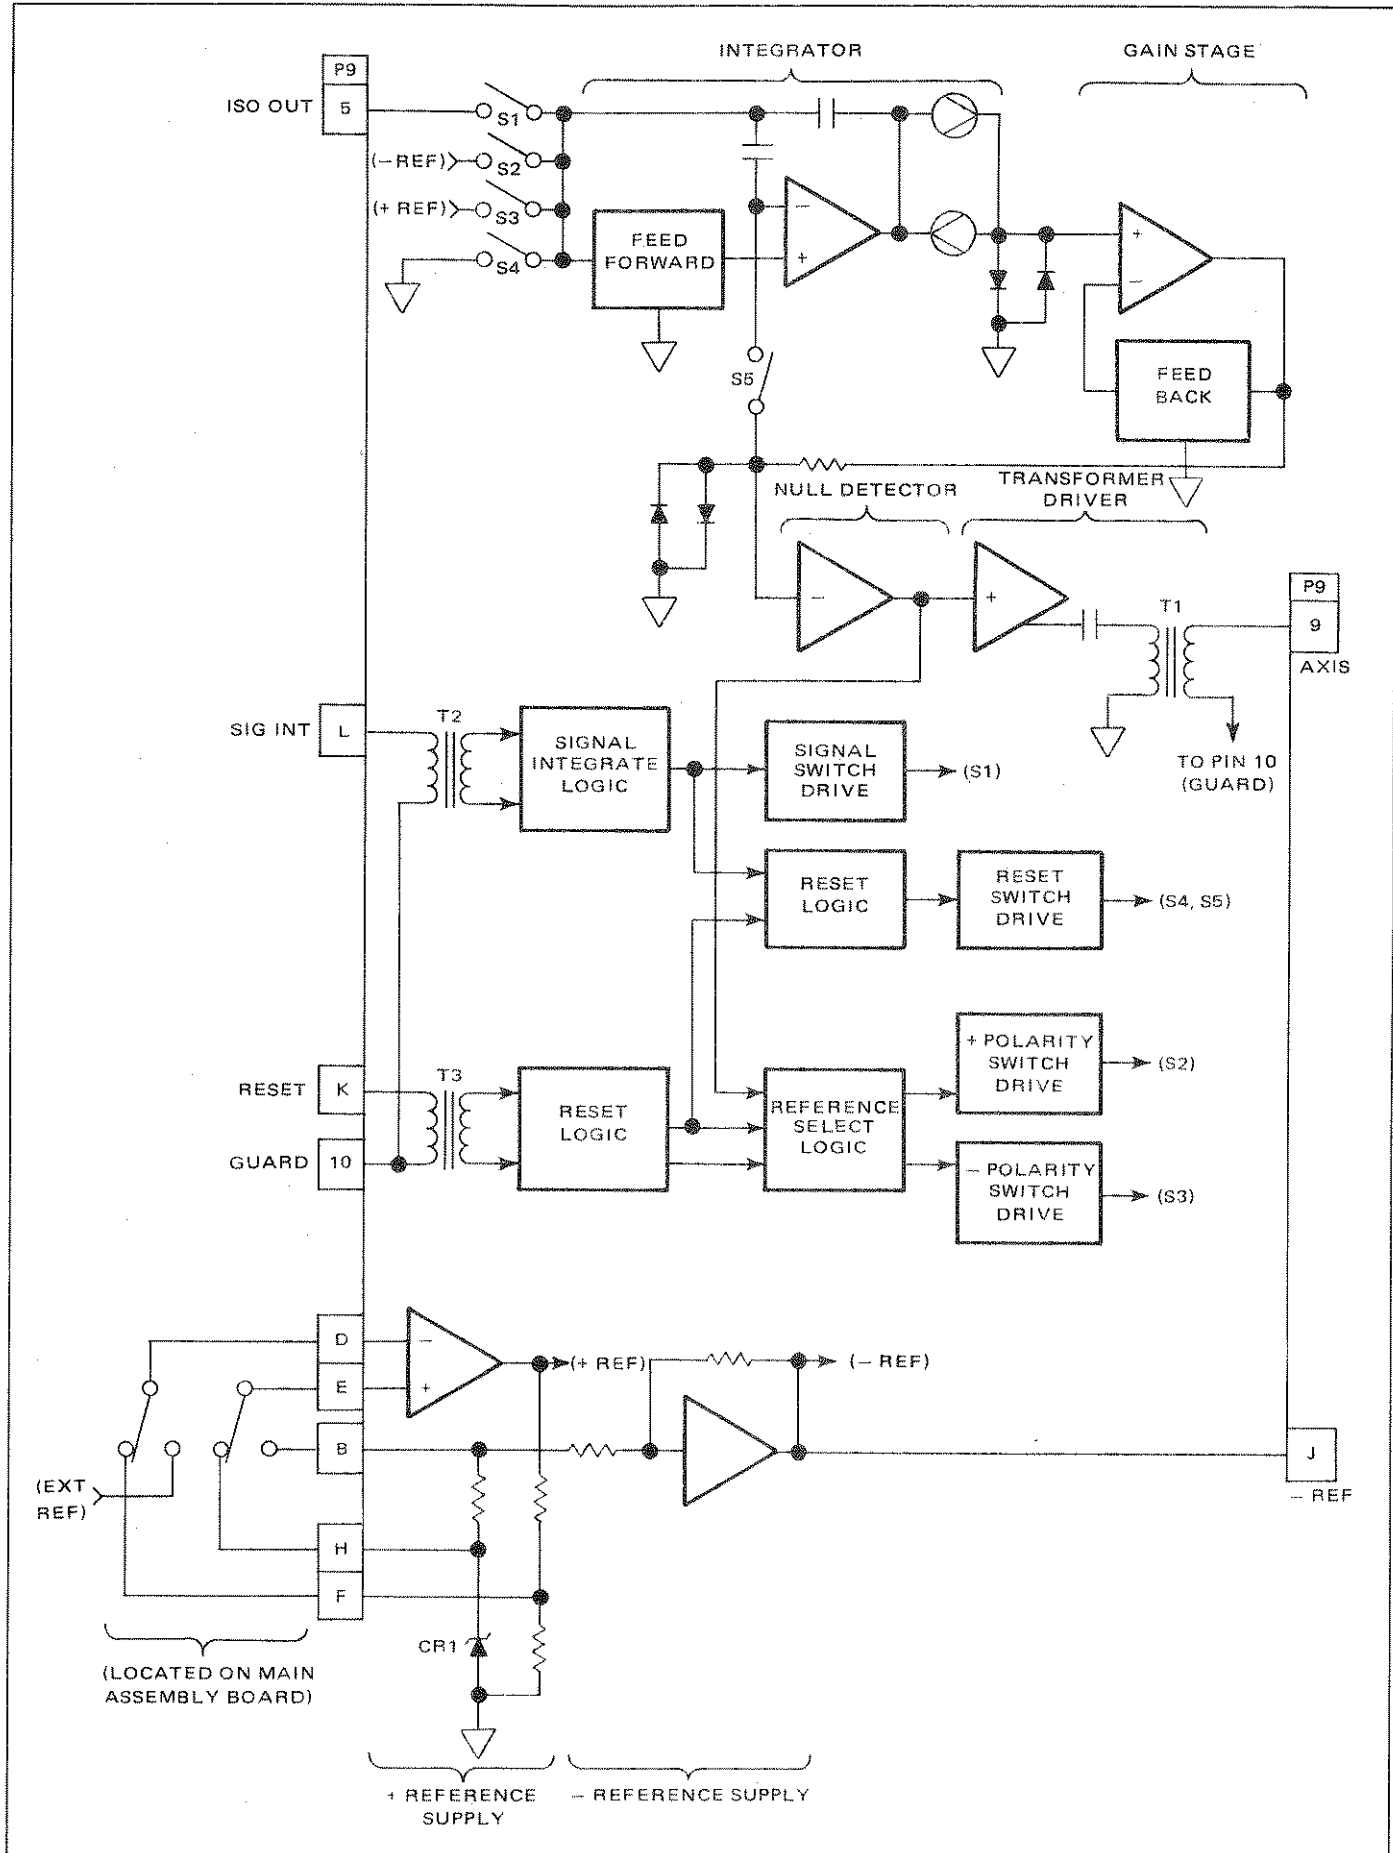
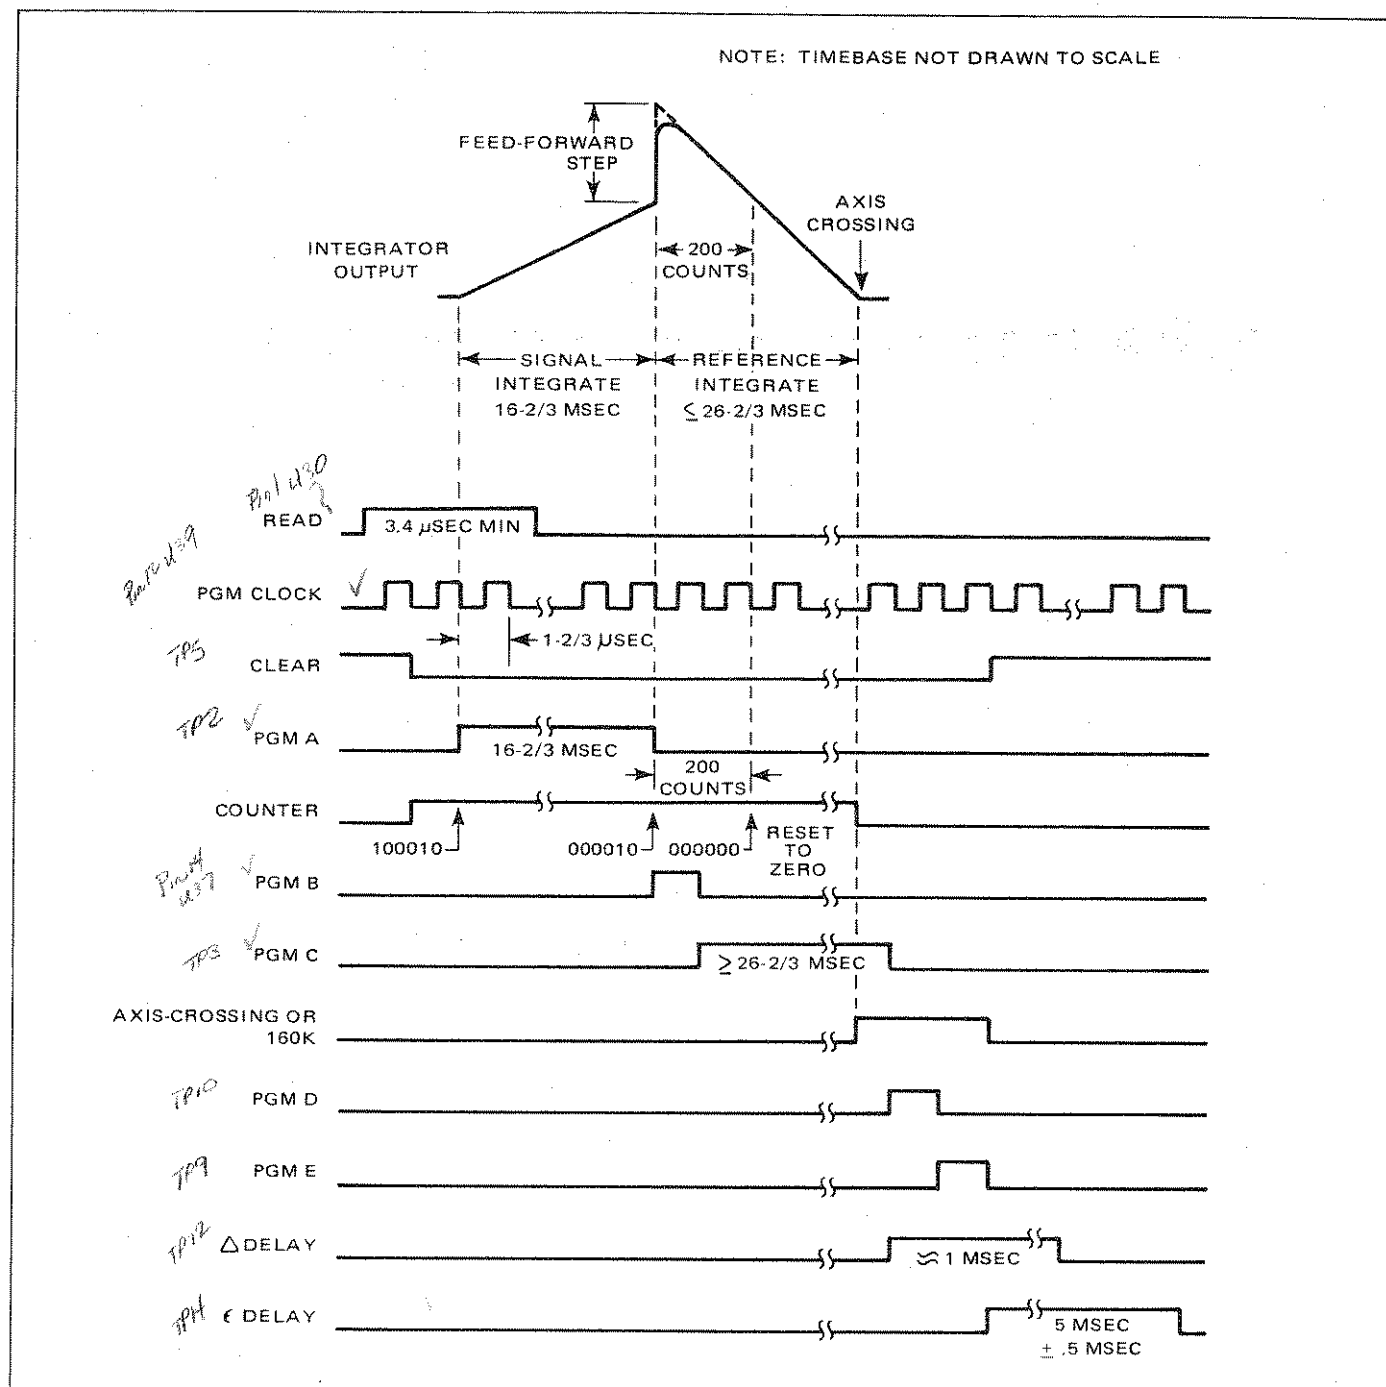

Figure 4.12 - Digitizer
Figure 4.13 - Integration Timing Diagram
periods. The circuitry used to perform this task include both the Digitizer and portions of the Display/Logic section. In the Digitizer, shown in simplified form in figure 4.12, this is reflected as an adjustment to the basic shape of the integrator output signal as shown in figure 4.13. The 'delay' portion of the integration cycle is initiated immediately following the signal integrate period and is the result of two factors. First, an analog level equal to 180 digits and of a polarity that resists the axis crossing from occurring, is produced at the integrator output by a network called the feed forward circuitry. Second, a capacitor in the feed-back network of the gain stage that follows the integrator adds to the total delay period. The total effect is a fixed delay of the axis crossing signal of 200 digits.
4.41 The integrator switches consist of junction FET's, controlled by circuitry located on the Digitizer. Referring to figure 4.12, switch S1 conducts during the signal integration period, switch S2 or S3 during reference integration and S4 and S5 during reset. The output of the integrator is coupled to the following Gain Stage through two FET's connected as current generators. The purpose of these generators is to prevent loading of the Integrator while maintaining reasonable coupling to the gain stage input.
4.51 The Digitizer Logic receives its timing information through isolating data transformers T2 and T3. The logic converts this information into control signals that operate the FET switches. The timing of the input data and switch operation is provided in figure 4.13.